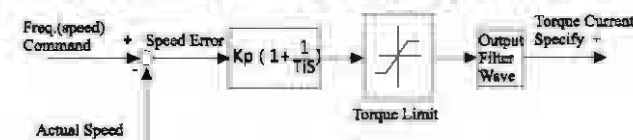

Fig. F4-1 Speed Regulator
1. Speed regulator (ASR) has structure as showed in figure F4-1. KP is proportional gain P, TI is integral time I.